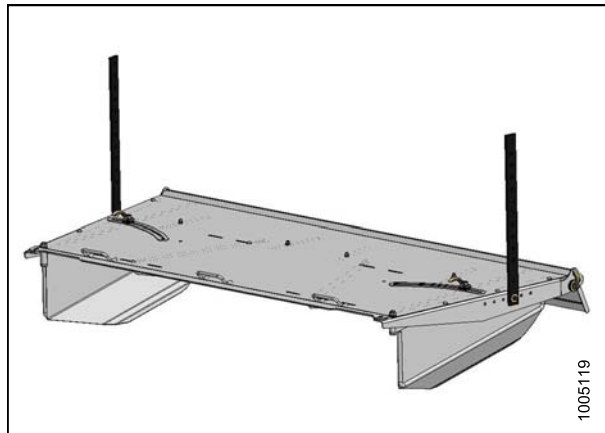

Figure 3.59: Forming Shield
11. Invert forming shield to installation position as shown in Figure 3.59: *Forming Shield, page 54*.